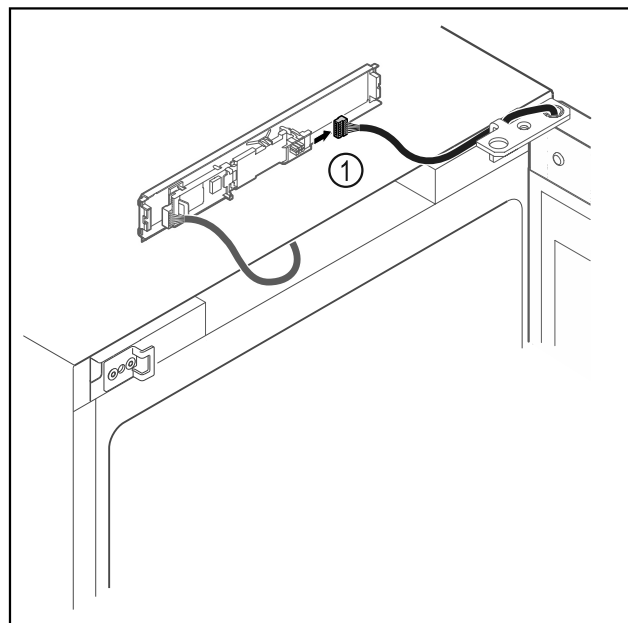

Fig. 12
- Disconnect the plug Fig. 12 (1) from the circuit board.